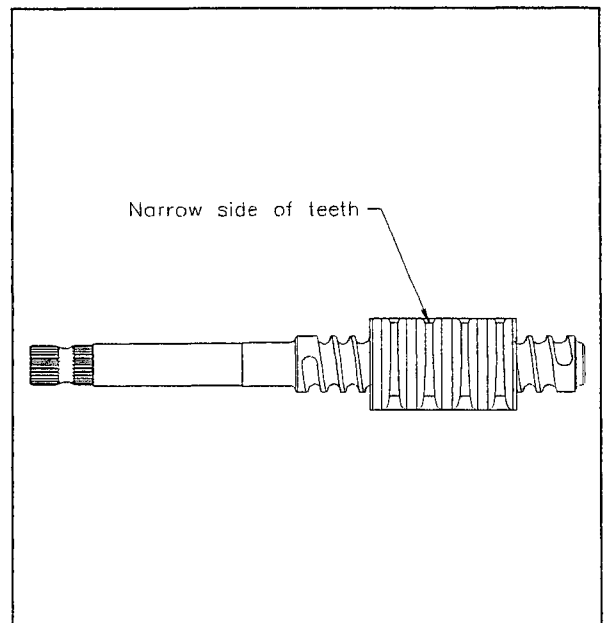

Figure 3-17
- Position ball nut on shaft as shown in figure 3-17.